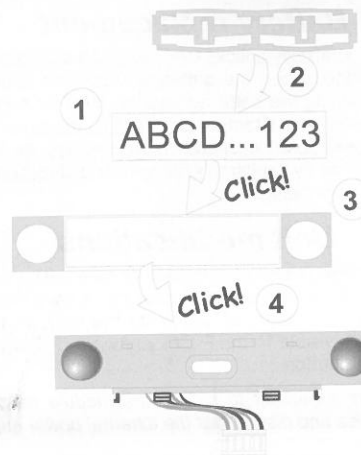

Figure 3: Insertion of a label into a control segment
- Connect the segment wires to the internal connector of the module (8).
- When batteries are inserted, the yellow backlit activation button (3) starts to light permanently which indicates that the module has not been enrolled to the system yet.
- Press the backlit activation button (3) – the module is thus enrolled and the yellow LED indicator goes off (this can take a few sec). An enrollment signal can also be sent by inserting the batteries.
- When you have completed installation, insert descriptive labels behind the segment transparent plastic cover and close them, see figure 3. Label printing is a part of the F-Link software (**Devices** window, at the RFID module position – **Internal settings**).